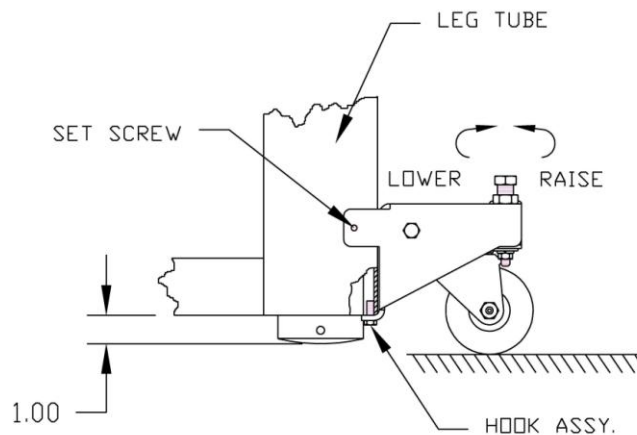

Fig. 9 Installation and use of Optional Caster.
- Adjust the Mechanical Leveling Feet on the Table so that they extend down from the Leg Tube by approximately 1 inch (Refer to Fig. 9).